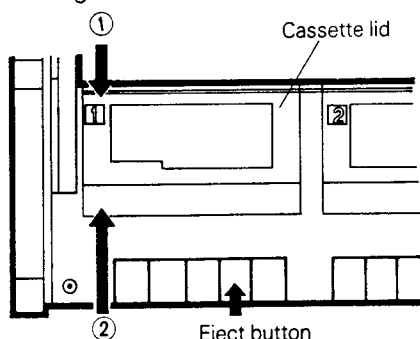

Fig. 1
- (1) Press the EJECT button to open the cassette lid and disengage the one side of the cassette lid by pressing the part indicated with arrow ① as shown in Fig. 1.
- (3) Keeping the cassette lid opened, engage the part of the cassette lid indicated with arrow ② as shown in Fig. 1.